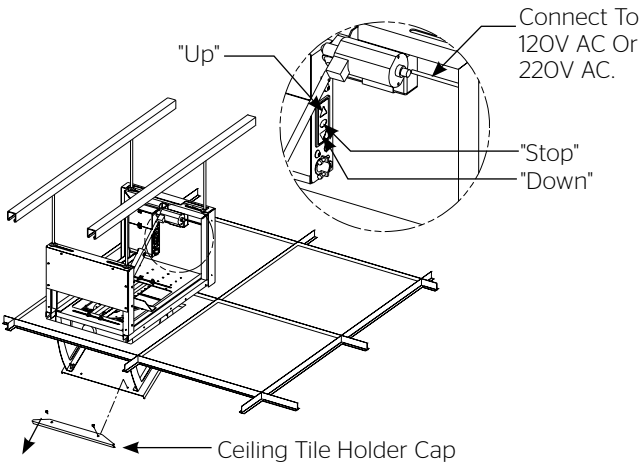

Figure 11
9. Lower Da-Lift by connecting the power supply to 120 volt or 220 volt AC power. Use the switch shown to operate the Da-Lift. See Figure 11. The "Stop" button is needed only for intermediate stopping.